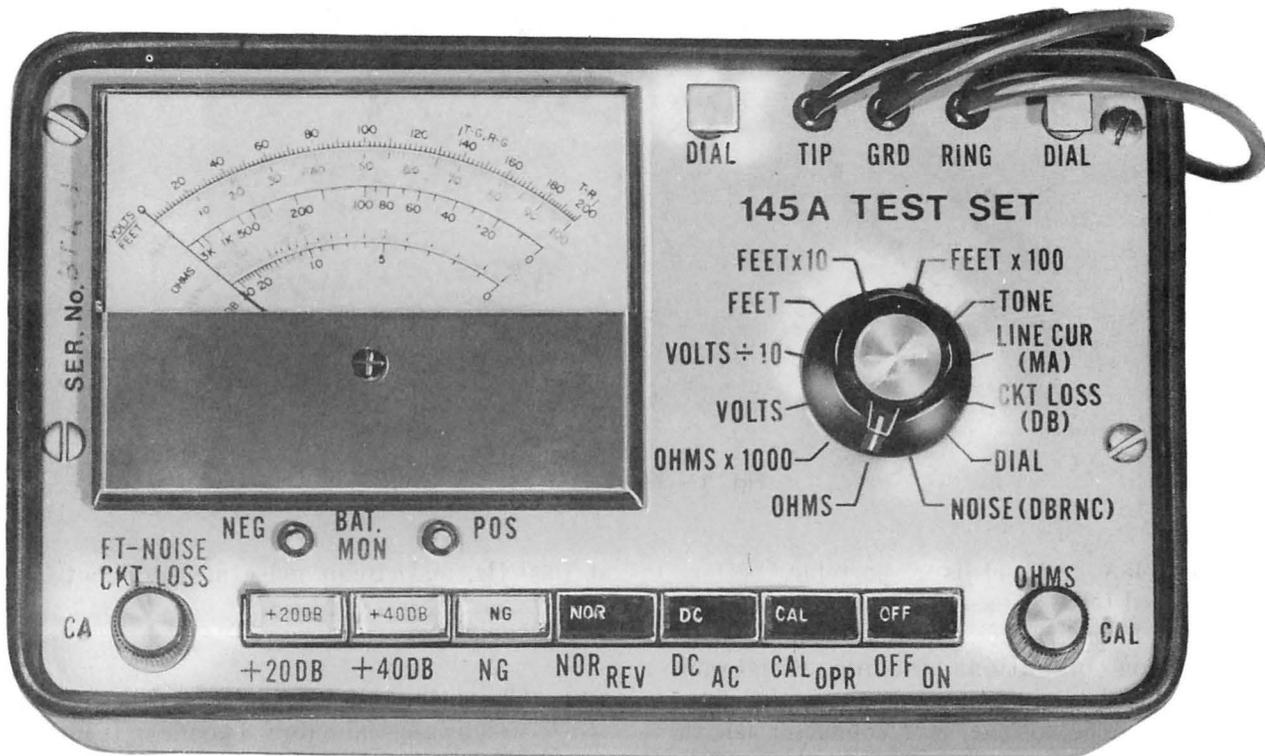

Fig. 2—Front Panel
- DC Voltmeter—DC voltage readings; eg, 48V central office (CO) battery.
2.03 The following switches are located on the front panel (Fig. 2):